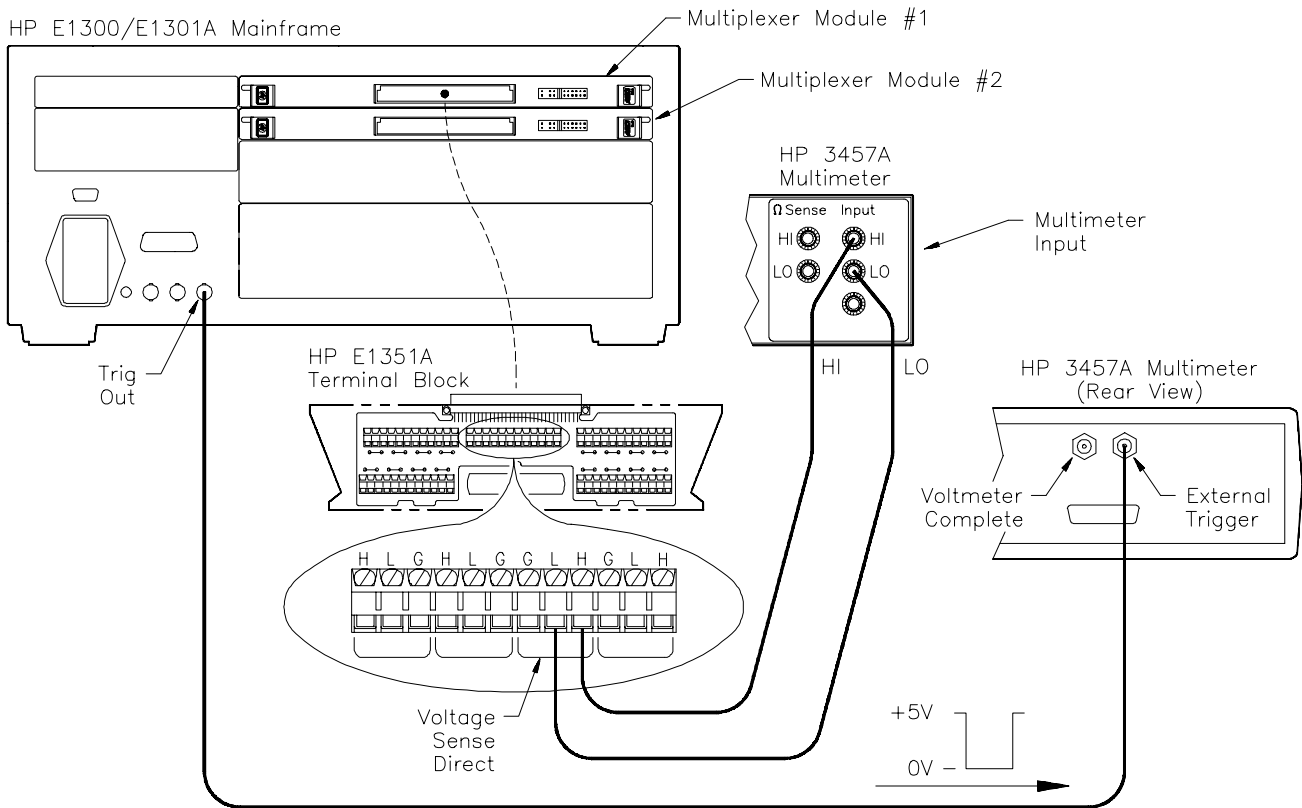

Figure 3-4. Mainframe to Multimeter Connection for Synchronization
- A Tree Terminals of each terminal module connect to each other and to the multimeter in Figure 3-4. To connect the A Tree Terminals to each other, use either the analog bus cables (shown in Figure 1-2) or wire the terminals together between the terminal modules.